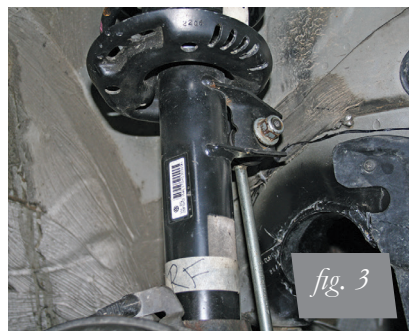

fig. 3
1. Unbolt the sway bar from the tab (Fig. 3). For sway bar removal instructions see factory repair manual.